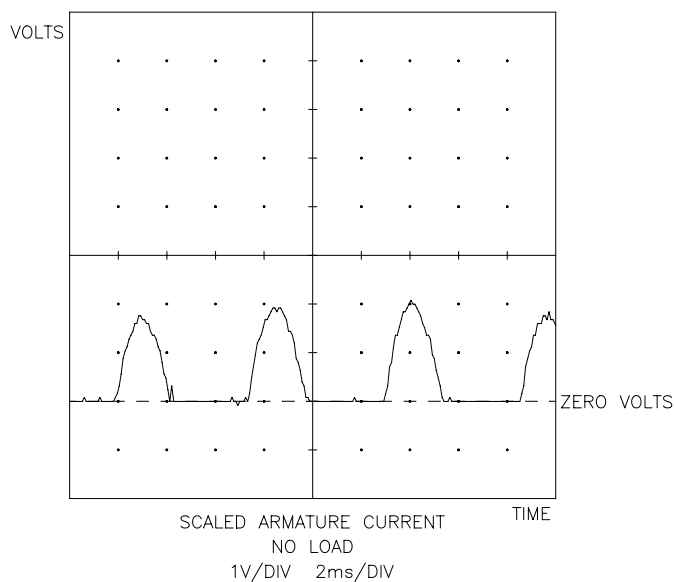

FIGURE 11
The combination of sensor rating and selected gain are used to give a scaled current feedback equal to +5.0 VDC at the full load rating of a particular control model. The next stage, A4-C, uses the programming jumper J6 to allow amplification of the current signal in 20% increments to scale operation of the current related circuits according to the rating of the motor used. Refer to TP11 (M) and FIGURE 11 & 12 for typical waveforms under no load and full load conditions.